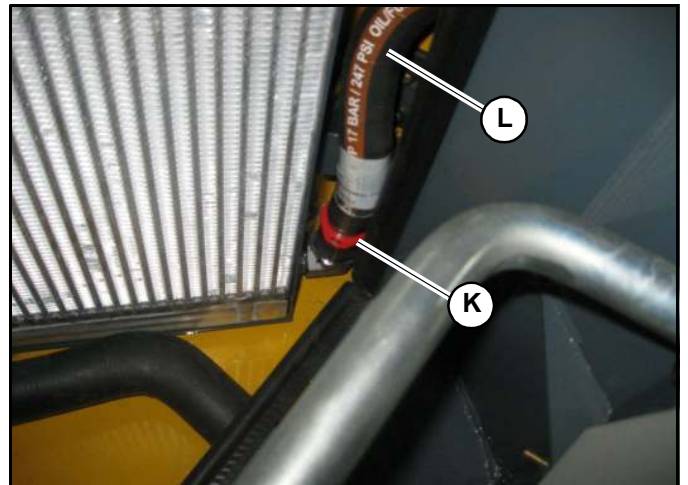

Fig. 24 – Lower Hydraulic Cooler Hose
10. Remove the lower hydraulic cooler hose quick connect clip, or remove the entire fitting (K, Fig. 24). Tag and disconnect the hydraulic hose (L). Close all openings using caps and plugs.